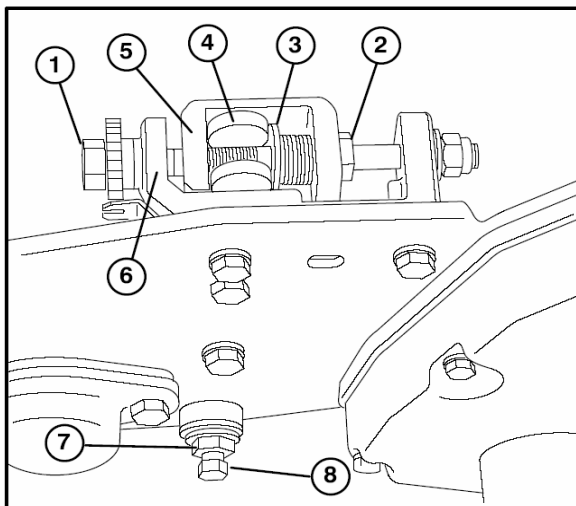

Figure 3
2. Secure bedbar to each side plate with bedbar bolts (jam nuts on bolts) and (8) washers. A nylon washer is to be positioned on each side of side plate boss. Place a steel washer outside each of the nylon washers. Torque bedbar bolts to 240 - 320 in-lb. Tighten jam nuts until washers just rotate freely (Fig. 3).
1. Position machine on a flat, level work surface. Make sure reel contact is removed by rotating adjusting screws counterclockwise (Fig. 3).